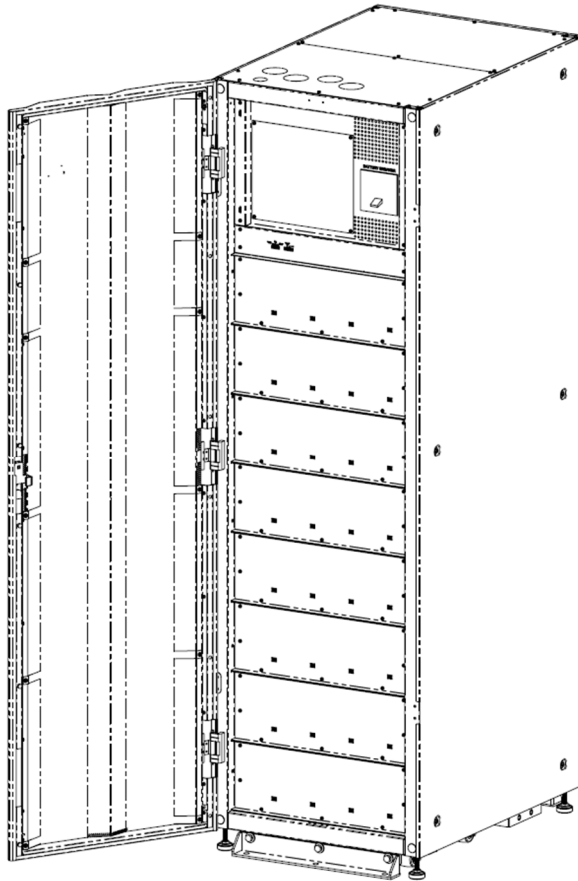

Figure 9: battery cabinet internal view (front view with door open)
- (1) Open the Battery Cabinet's front door, and you will see the internal mechanisms including a wiring terminal cover, a breaker, and eight layers of battery modules with covers. Please refer to **Figure 9**.